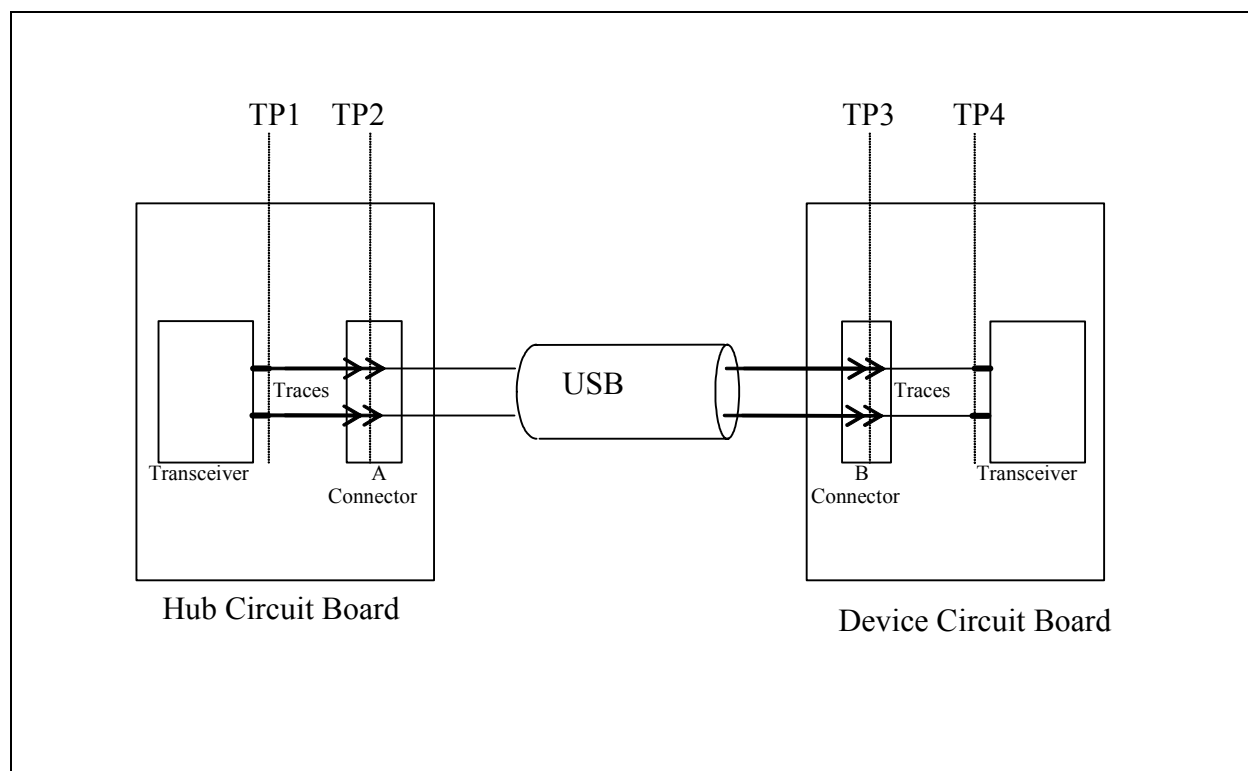

Figure 6.3 Eye Pattern Measurement Planes
High-speed USB signals are characterized using eye patterns. For measuring the eye patterns 4 points have been defined (see Figure 6.3). The Universal Serial Bus Specification Rev.2.0 defines the eye patterns in several 'templates'. The two templates that are relevant to the PHY are shown below.
The eye pattern in Figure 6.4 defines the transmit waveform requirements for a hub (measured at TP2 of Figure 6.3) or a device without a captive cable (measured at TP3 of Figure 6.3). The corresponding signal levels and timings are given in Table 6.6. Time is specified as a percentage of the unit interval (UI), which represents the nominal bit duration for a 480 Mbit/s transmission rate.
The eye pattern in Figure 6.5 defines the receiver sensitivity requirements for a hub (signal applied at test point TP2 of Figure 6.3) or a device without a captive cable (signal applied at test point TP3 of Figure 6.3). The corresponding signal levels and timings are given in Table 6.7. Timings are given as a percentage of the unit interval (UI), which represents the nominal bit duration for a 480 Mbit/s transmission rate.